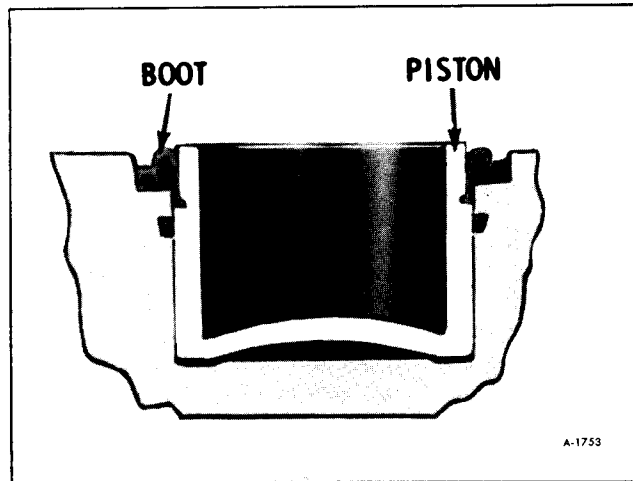

Figure 53—Boot Installation
2. Examine the inside of the caliper for evidence of fluid leakage. If leakage is noted, the caliper should be overhauled. Wipe the inside of the caliper clean, including the exterior of the dust boot. Check the boot for cuts, cracks or other damage. Make sure that the boot is properly engaged in the groove in the piston and also in the caliper counter-bore. (figure 53)